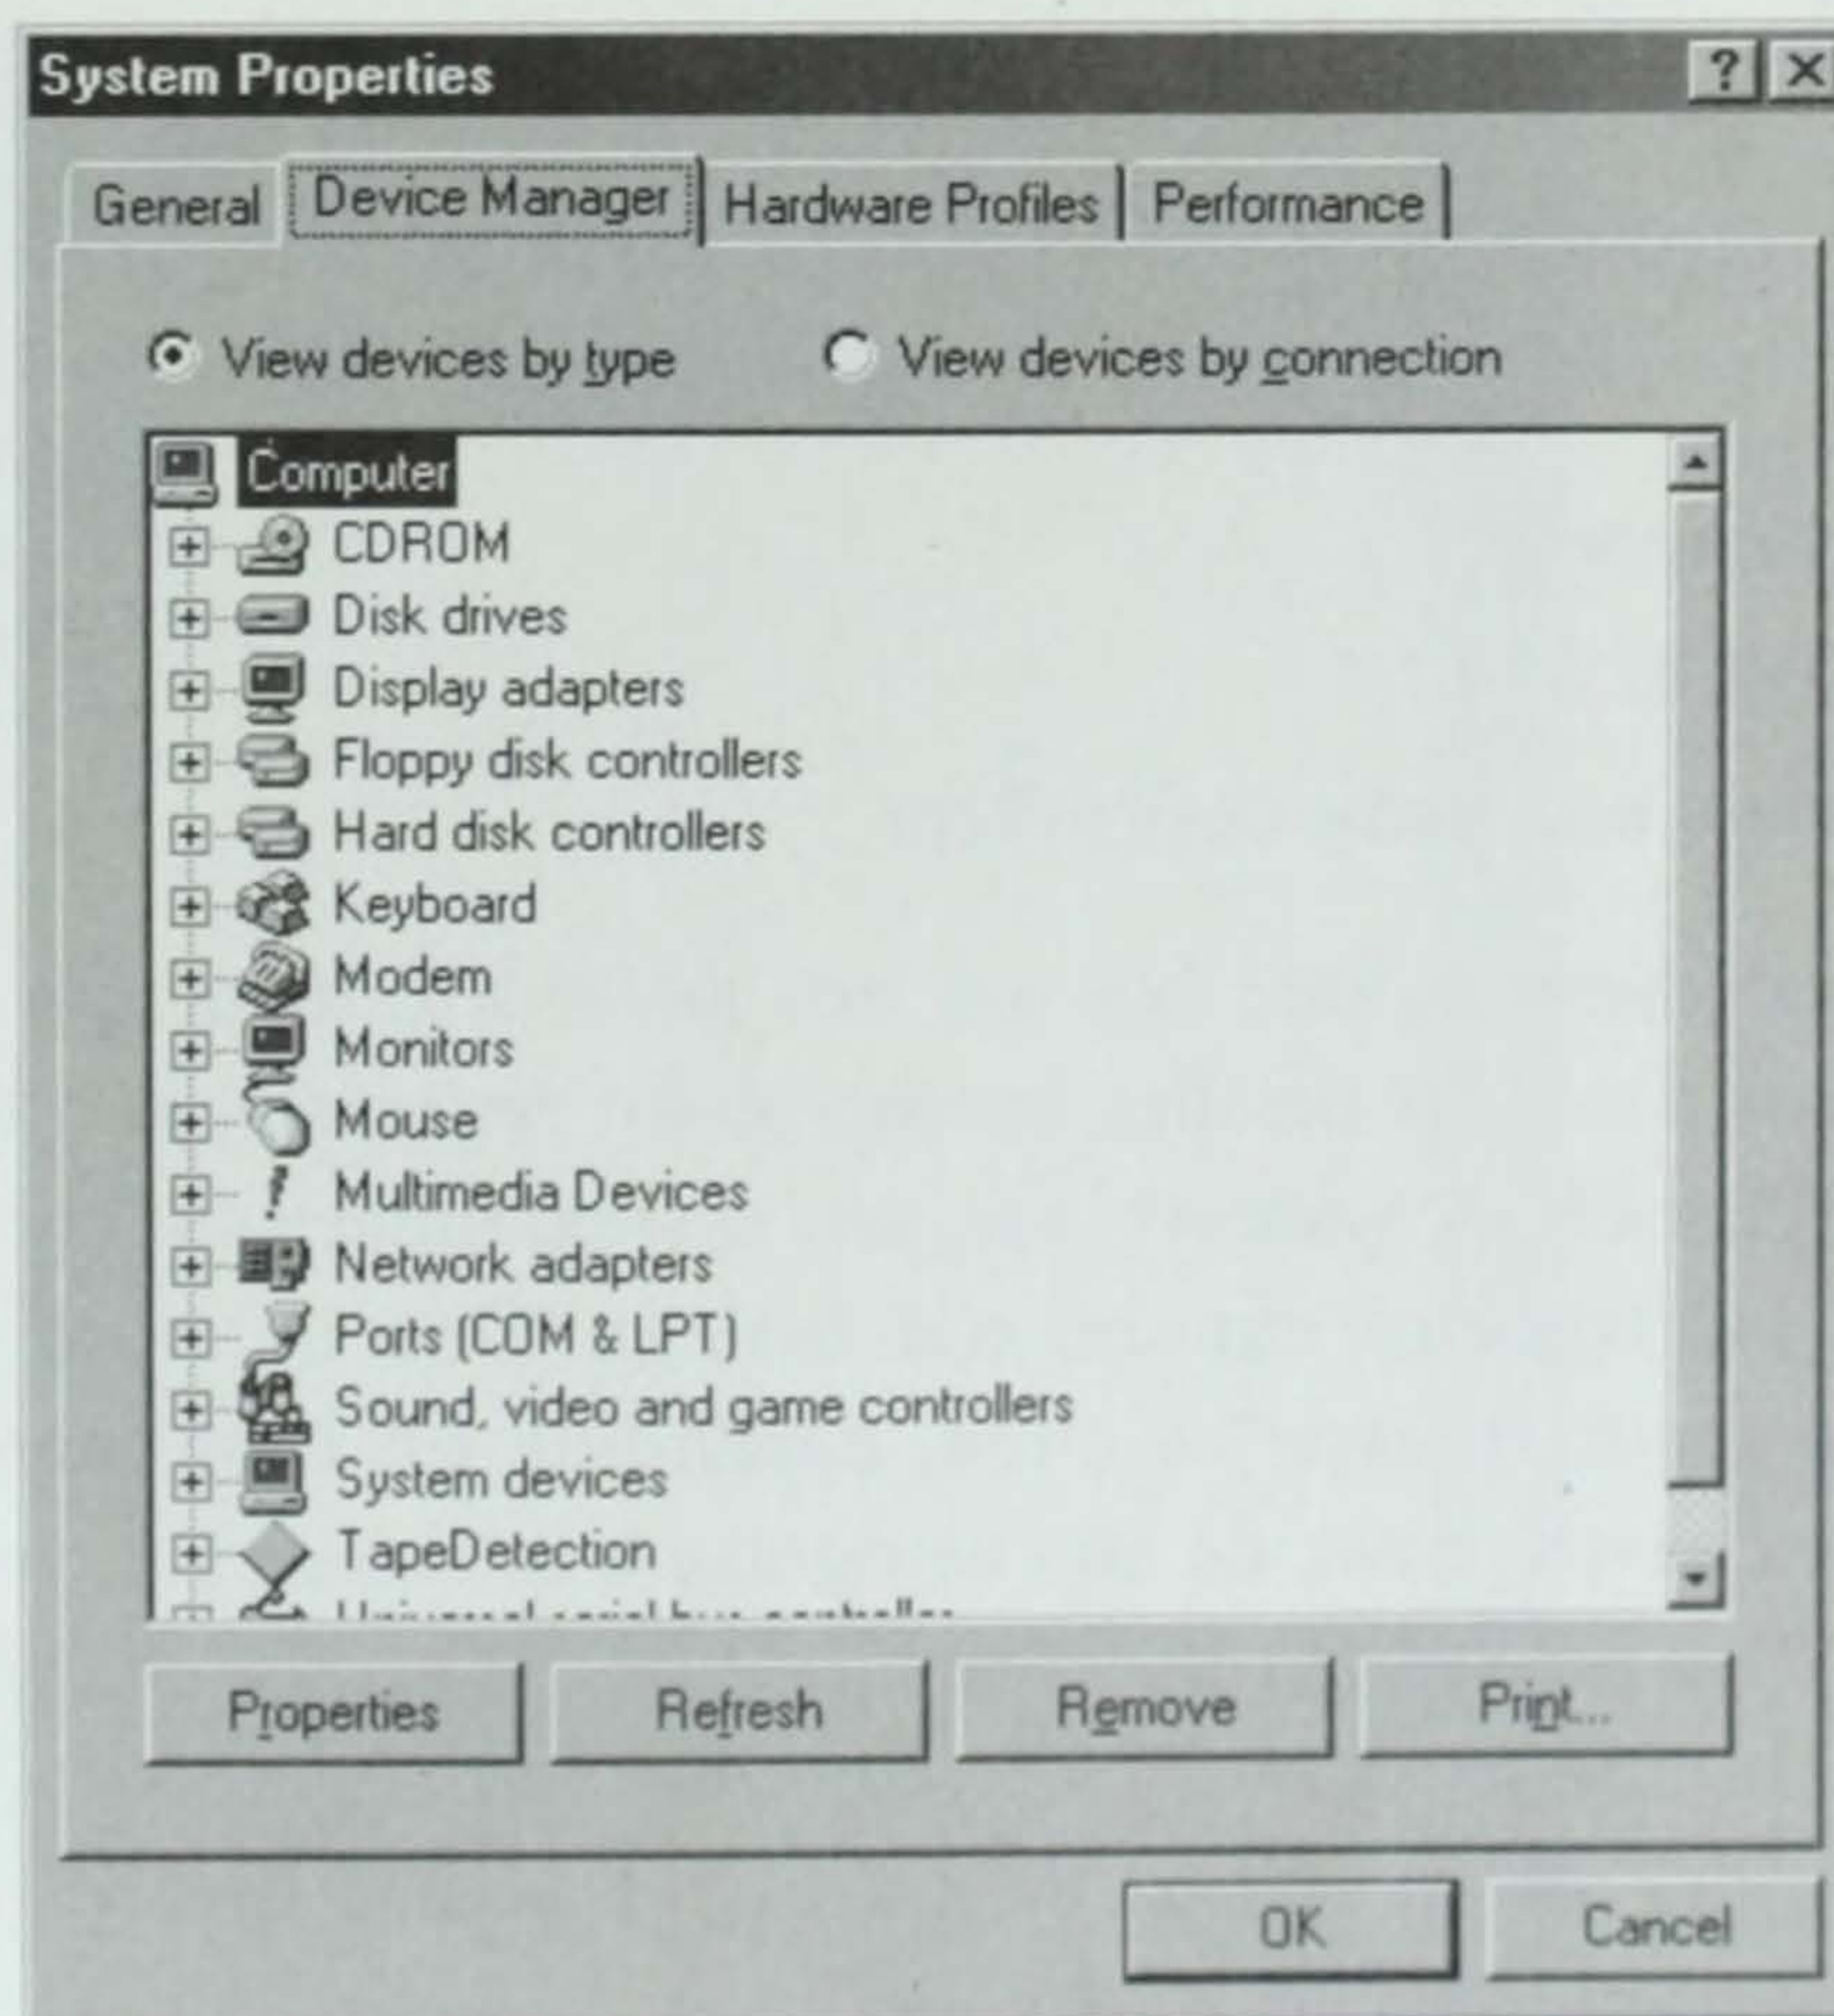

Figure 3.1 Device Manager opening screen.
1. *View devices by type.* Gives a listing of connected devices by their category or class (all printers are displayed under the Printer category, all display adapters grouped under Display adapters, for example). See Figure 3.1.
On the listing shown in the Figure 3.1, the following device categories are given, representing major hardware components of a P200 MMX computer: